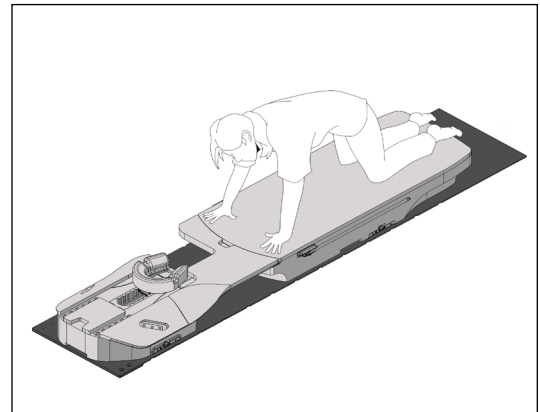

Fig. 13
3. Have the patient use their hands or elbows to move their upper body into position. (Fig. 13)